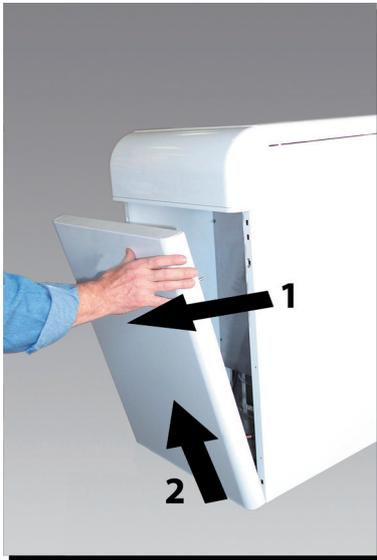

fig. 7 - Front panel opening
To open the front casing, see the sequence in fig. 7.
- Remove the front panel of the boiler (fig. 7).